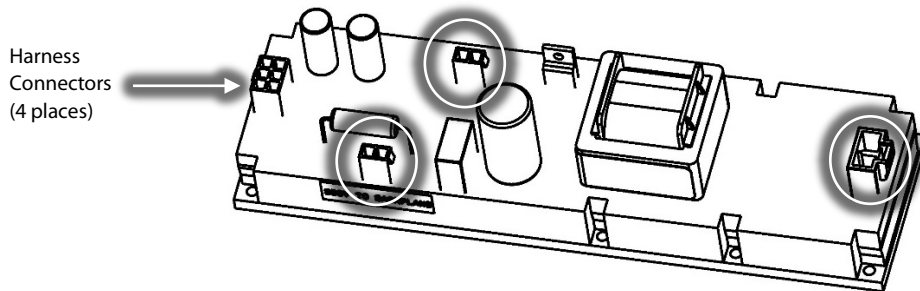

Figure 17 – DC-DC Harness Removal
31. Disconnect all wiring connections from the DC-DC. Refer to Figure 17 (DC-DC Harness Removal).